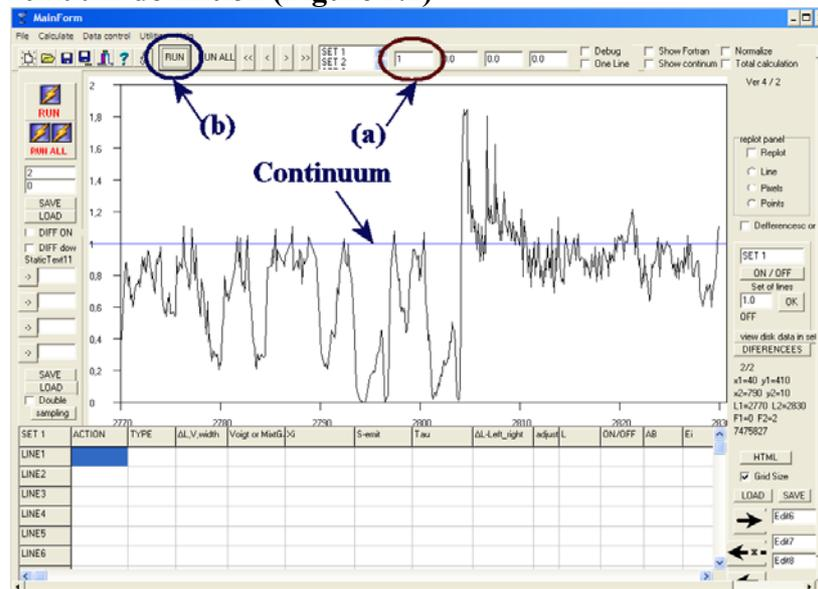

Figure 2.2
Step 1: Continuum definition (Figure 2.2)